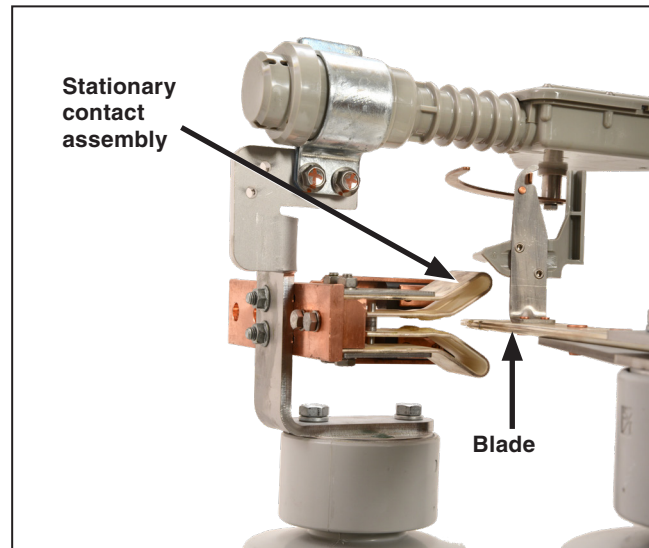

Figure 35. During closing, make sure the blade enters the stationary contact assembly on center.
- The blades should move into each stationary contact assembly on center. See Figure 35.